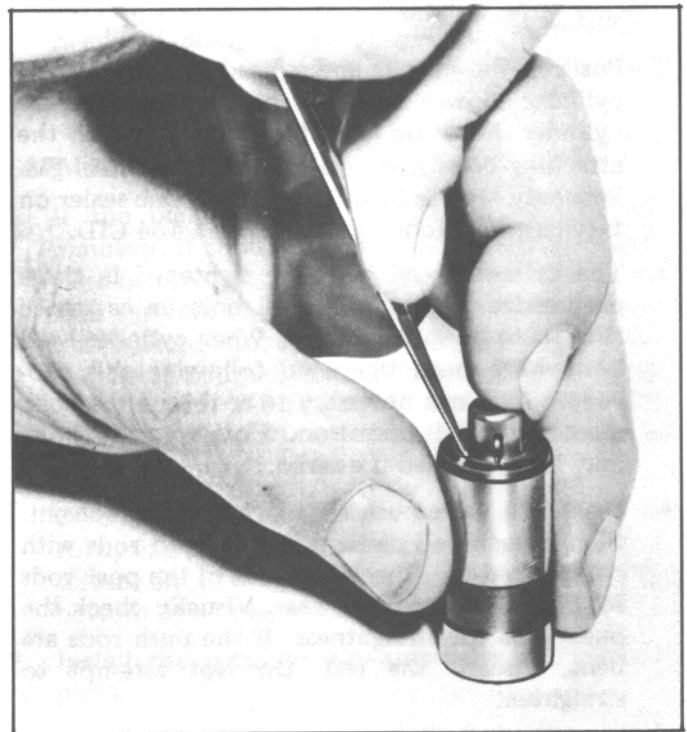

Fig. 115. Installing Ball Check Valve
2. Insert check ball spring on seat in ball retainer and place retainer over ball so that spring rests on the ball. Carefully press the retainer into position in plunger with the blade of a small screw driver (Fig. 115).